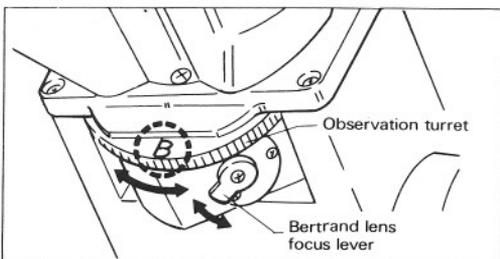

Fig. 33
- By turning the turret, the markings (O), (B), (C) and (M) will show up one after another. (Fig. 33)
For focusing the Bertrand lens, turn its focus lever, as shown in Fig. 33.